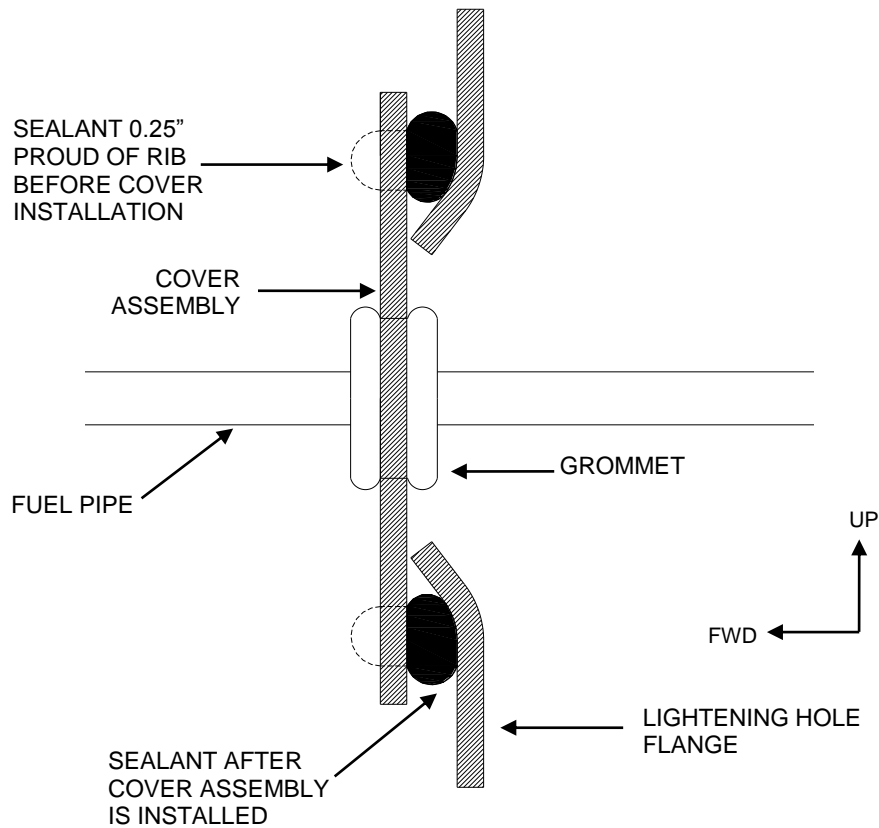

Figure 23: Installation of Cover Assembly to RH Rib #5
4. Apply Sealant (Item 12) on the outboard surface of RH Rib #5, around the outboard lightening hole flanges as shown in Figure 23. Apply a continuous bead of sealant around the entire circumference using a spatula or similar, ensuring the bead is at least 0.250" proud of the rib web.
9. Apply Sealant (Item 12) on the outboard surface of RH Rib #5 around the inboard lightening hole flange as shown in Figure 23. Apply a continuous bead of sealant around the entire circumference using a spatula or similar, ensuring the bead is at least 0.250" proud of the rib web.